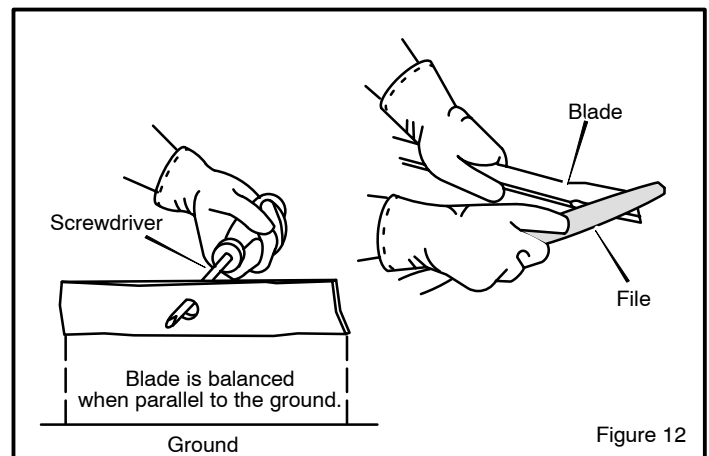

Figure 12
4. Sharpen the **blade** with a **file** (Figure 12). Make sure you keep the original bevel angle.
5. Make sure the **blade** is balanced. Use a **screwdriver** and hold the **blade** parallel to the **ground** (Figure 12). A **blade** that is balanced will stay parallel to the **ground**. If the **blade** is not balanced, the heavy end will rotate toward the **ground**. Sharpen the heavy end until the **blade** is balanced.